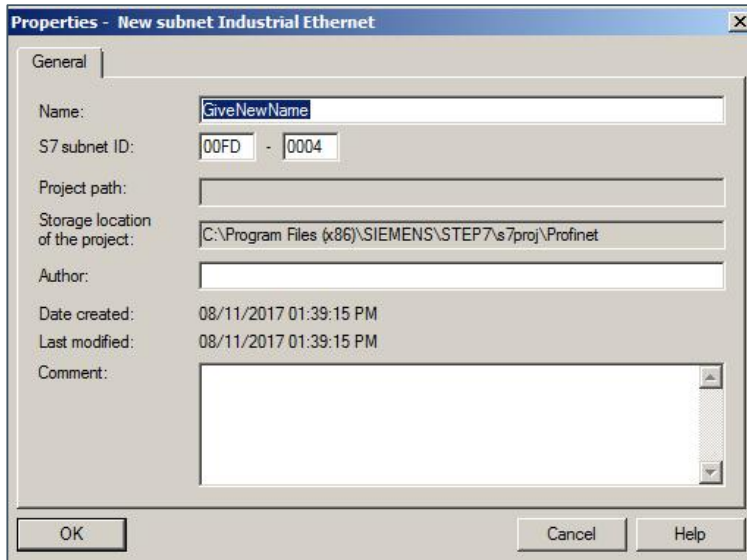

Figure 25: Creating and naming the new subnet
- 5) **Name** the new subnet and click **OK** (see: Figure 25: Creating and naming the new subnet).